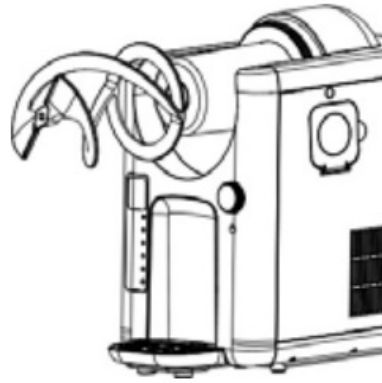

Fig. 2
9. Place the mixer on the square drive pin, as shown in Figure 2, and push the mixer onto the cooling cylinder.